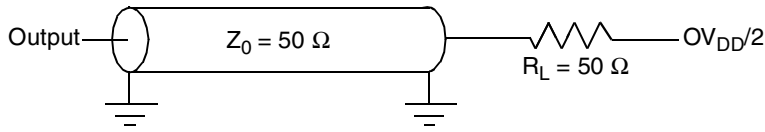

Figure 7. Alternate AC Test Load for the JTAG Interface
- All outputs are measured from the midpoint voltage of the falling/rising edge of TCLK to the midpoint of the signal in question. The output timings are measured at the pins. All output timings assume a purely resistive 50- Ω load (see Figure 7). Time-of-flight delays must be added for trace lengths, vias, and connectors in the system.
Figure 7 provides the AC test load for TDO and the boundary-scan outputs of the MPC7448.